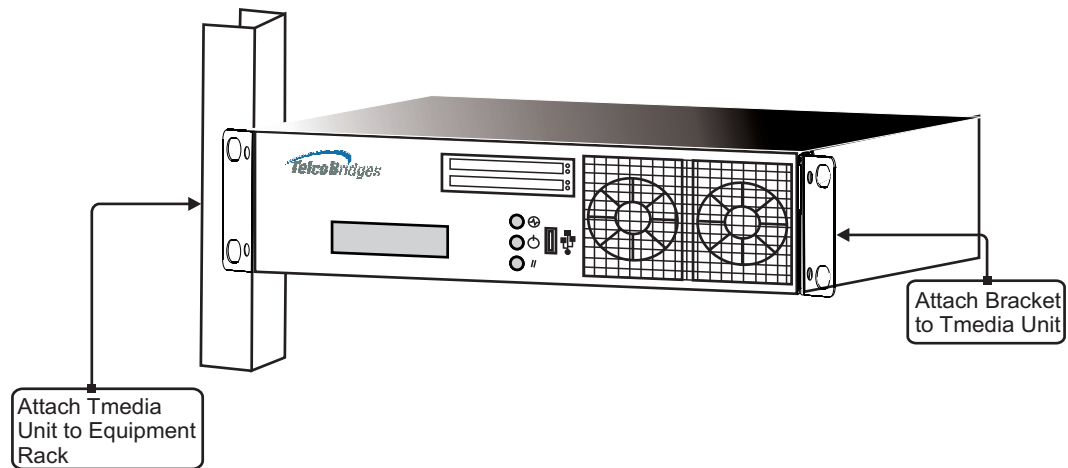

Figure 2.1 Mounting the TMP5900
1. Using two metal screws, attach one angle bracket to the front, left-hand side of the TMP5900 when viewed from the front, as shown in figure 2.1 on page 8. Repeat the same for the angle bracket on the right-hand side.